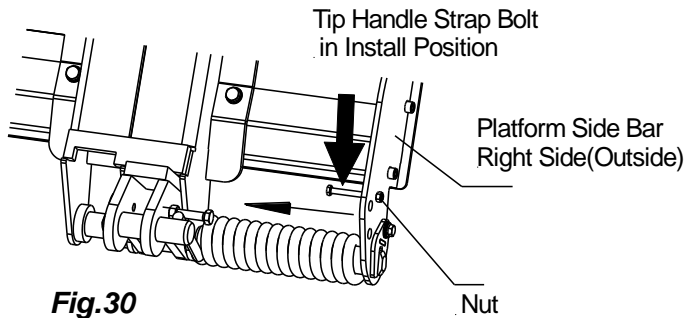
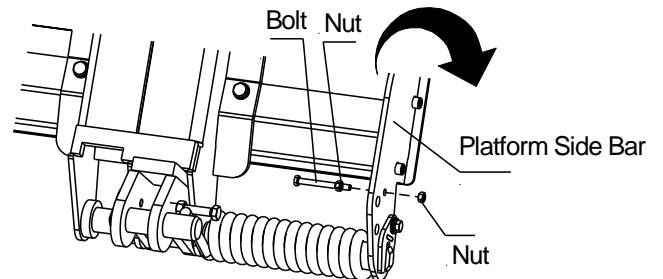
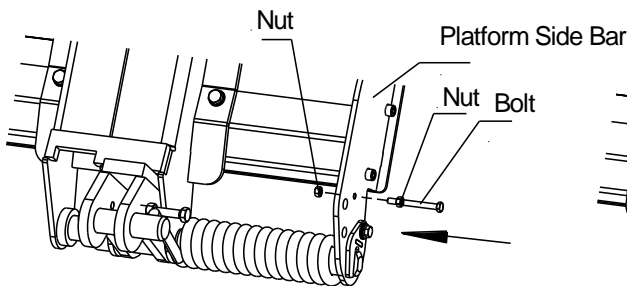

Fig.30
Fig.31
Fig.32
2. **Adjust Tip Handle Strap Bolt:** The tip handle strap bolt is installed in the shipping position when shipped from the factory to be secured. Loosen the outside nut to take out the bolt from the shipping position, **Fig.30**. Flip the bolt to the outside of the platform side bar, **Fig.31**. Install the bolt with the nut from the outside of the platform side bar and the other nut from inside of the side bar, **Fig.32**. Tighten the nuts when finished, **Fig.33**.